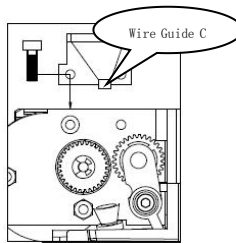

Fig. 2
2). Use hex wrench to take off wire guide C which is fixed on the plate (Fig. 2)